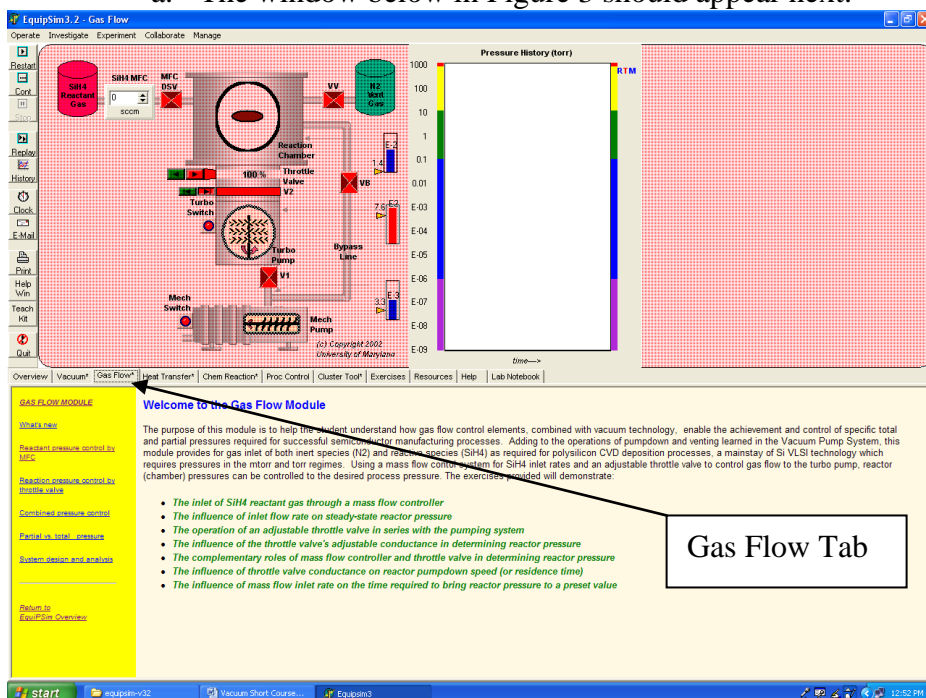

Figure 3 Main screen of the Gas Flow exercise screen
a. The window below in Figure 3 should appear next.